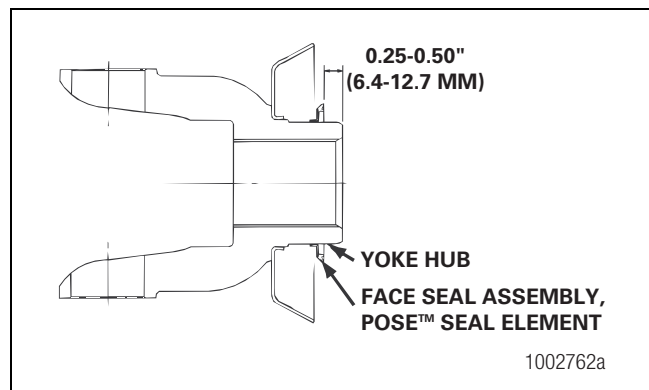

Figure 5.109
- Install the POSE™ seal onto the hub of the yoke or flange by hand. The lips of the seal must face toward the end of the hub, opposite shoulder. Slide the POSE™ seal onto the hub until the lips are 0.25-0.50-inch (6.4-12.7 mm) from the end of the hub. Do not install the POSE™ seal against the shoulder. Figure 5.109.